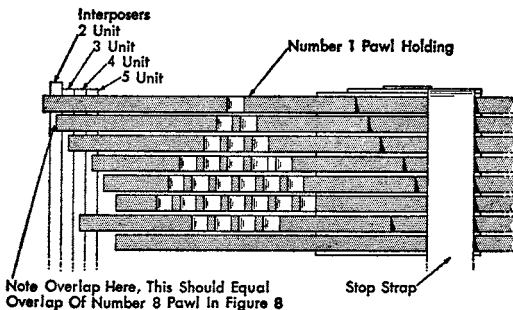
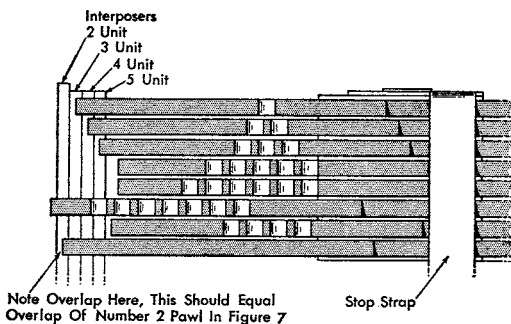
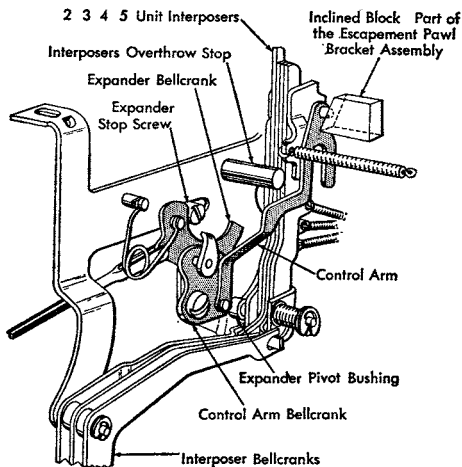
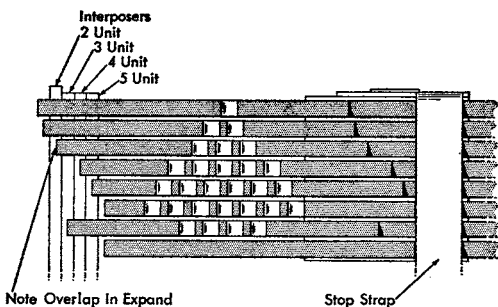

Figure 7. Overlap of Number 2 Pawl
Figure 8. Overlap of Number 8 Pawl
Figure 9. Expander Mechanism
Figure 10. Interposers in Expand Position
7. INTERPOSER VERTICALNESS is obtained by moving the left rail support to the left or right. Position the carriage to hold on the 1 escapement pawl. Check the overlap of the 2 pawl tail on the 2-unit interposer (Figure 7). Position the carriage to hold on the 7 pawl and check the overlap of the 8 pawl on the 2-unit interposer (Figure 8). The overlap should be equal in both cases without regard for the actual amount of overlap. This will prove the interposers to be vertical with respect to the pawl tails.
8. EXPANDER STOP SCREW. Position this in its elongated hole (Figure 9) to allow for one full unit of expansion when the expand button is pushed up. To check this, have the carriage hold on the 1 escapement pawl (Figure 7) and observe the overlap of the 2 escapement pawl tail on the 2-unit interposer. Move the expand button to the expand position. Observe that the 3 escapement pawl tail now has the same overlap on the 2-unit interposer (Figure 10) as the 2 escapement pawl tail had in the non-expand position.
9. OVERLAP. Adjust by moving the control arm bellcrank to the front or rear (Figure 9). Position the bellcrank so that when the carriage is held by the 1 escapement pawl the 3 escapement pawl tail will overlap the 3-unit interposer by one-half the thick-